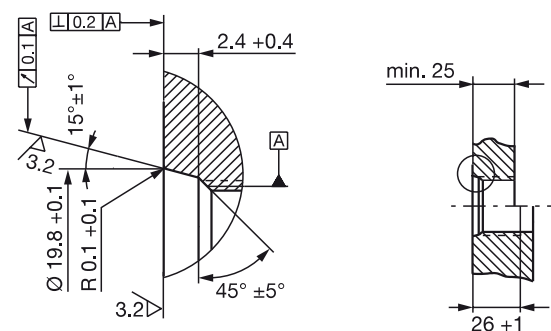
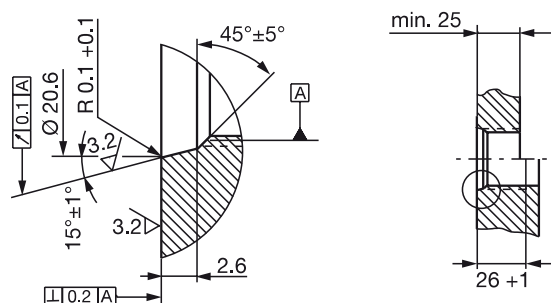

Fig. 4-3: Mounting hole M18×1.5 per ISO 6149 O-ring 15.4×2.1
Fig. 4-4: Mounting hole 3/4"-16UNF per SAE J475 O-ring 15.3×2.4
- ▶ Make a mounting hole with thread (possibly with countersink for the O-ring) acc. to Fig. 4-3 or Fig. 4-4.